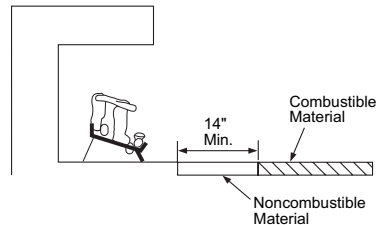

Figure 8 - Minimum Fireplace Clearances If Installed at Floor Level
- A. If installing appliance on the floor level, you must maintain the minimum distance of 14" to combustibles (see Figure 8).